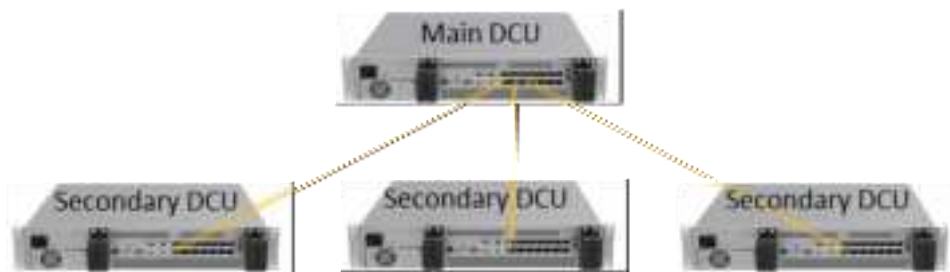

Figure 12. DCU Star Connection
- Flexible networking for different deployment strategies: The DCU supports daisy chain and/or star connections\* as shown in Figure 12, where distributed deployments can be enabled, e.g., remote site deployment.